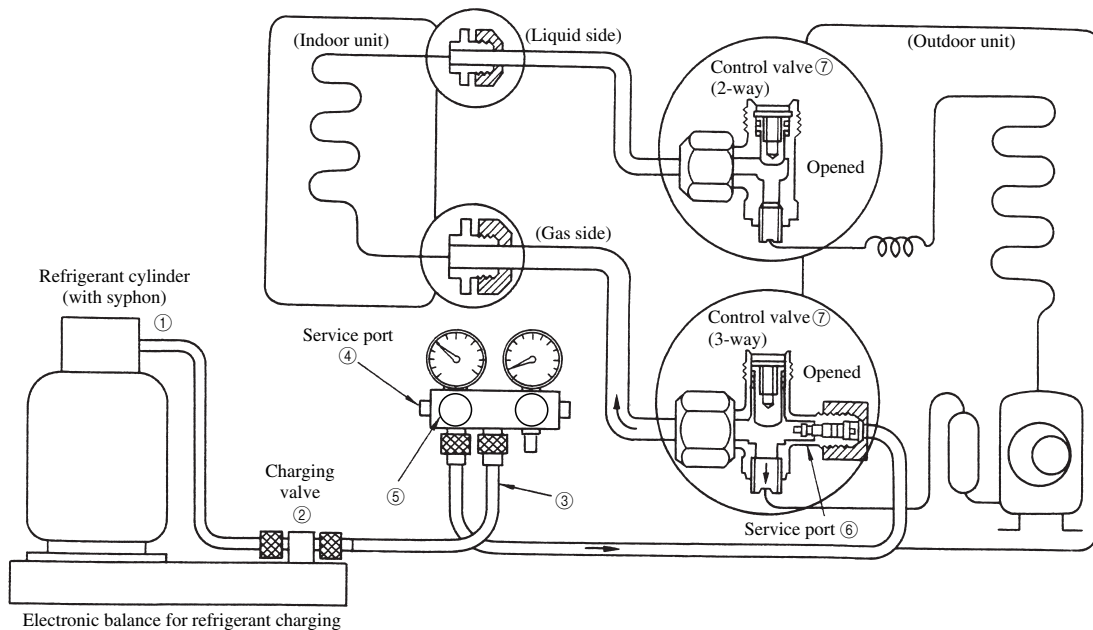

Fig.7 Configuration of additional refrigerant charging
(ii) Additional refrigerant charging required for refrigerant piping length longer than standard length (The following steps should be taken following the step e) in (1) above. See Fig. 7)